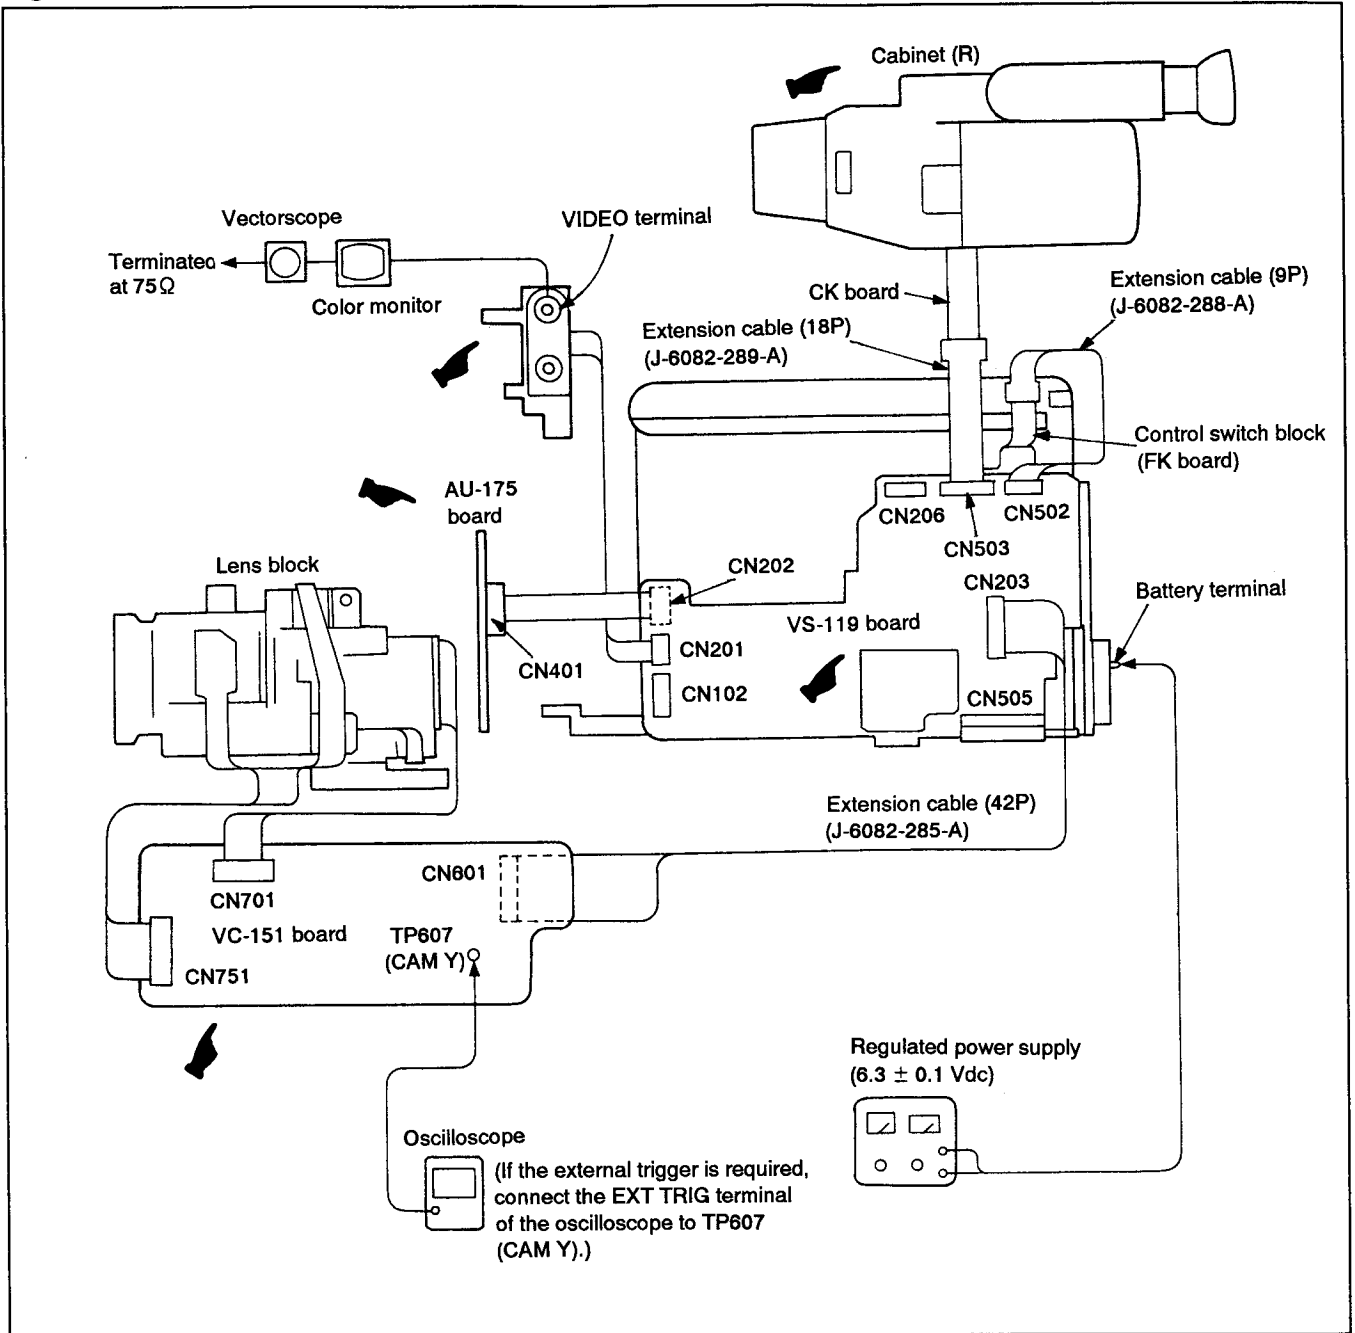

Fig. 7-1-3.
- 1) Connect the equipments for adjusting as shown in Fig. 7-1-3.
- 2) If remove the cabinet (R) (Power switch, camera function switch, LCD unit and electronic view-finder), set to the camera power supply ON mode (Note 1), and disconnect the following connectors.